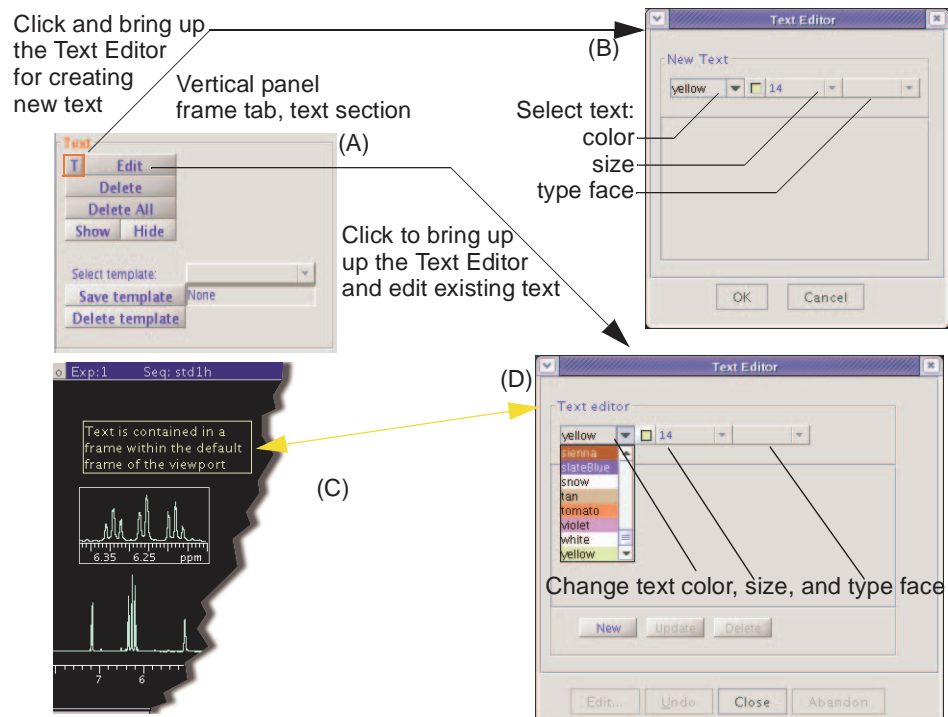

Figure 113. Text Panel Controls and Text Editor
Text is placed into a text frame within the default frame of the active viewport using the text insert tools, see Figure 113. Select, move and resize in the same way as an inset or default spectrum frame. The content of each text frame is defined by a file.
2. Click on the **Text** tab, see Figure 113\(A\).
3. Click on the **T** button, see Figure 113\(A\).
4. The Text Edit window, see Figure 113\(B\), appears.
1. **Double click** inside the frame to make the frame active; see Figure 113\(C\).
2. Click on the **Text** tab; see Figure 113\(A\).
The Edit Text window is displayed; see Figure 113\(D\).
1. **Double click** inside the frame to make the frame active, see Figure 113\(C\).
The Edit Text window is displayed, see Figure 113\(D\).